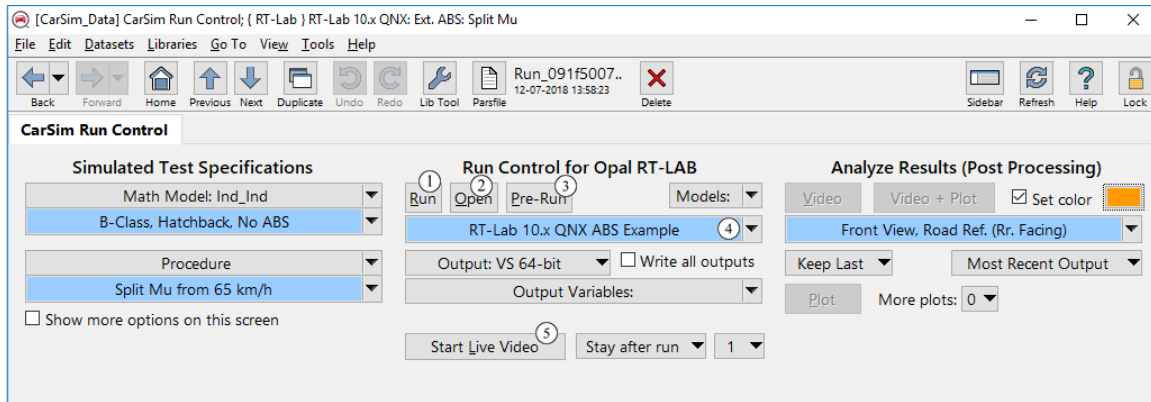
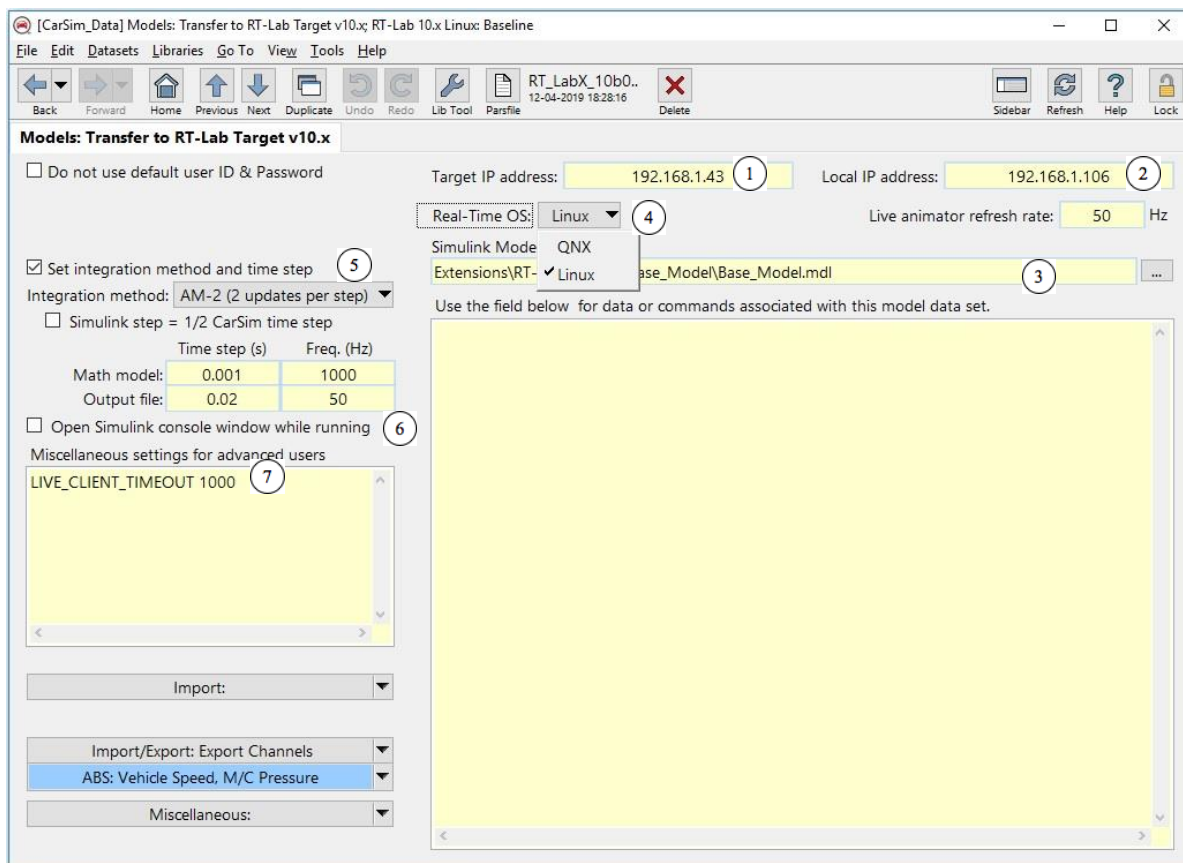
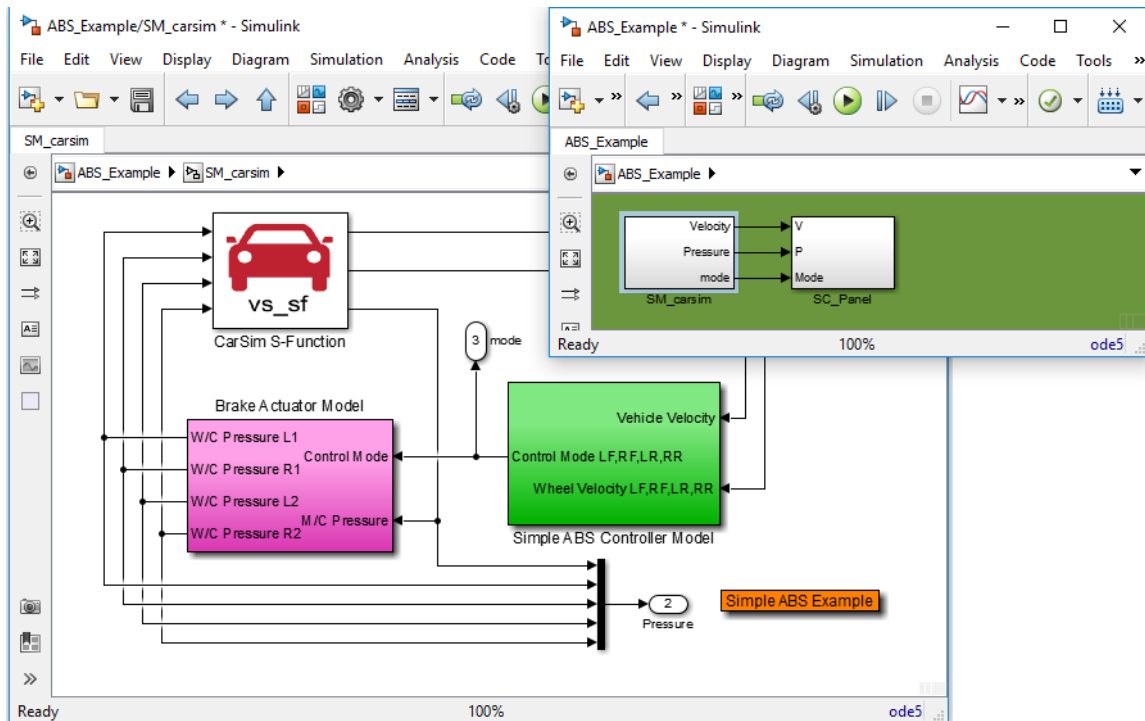
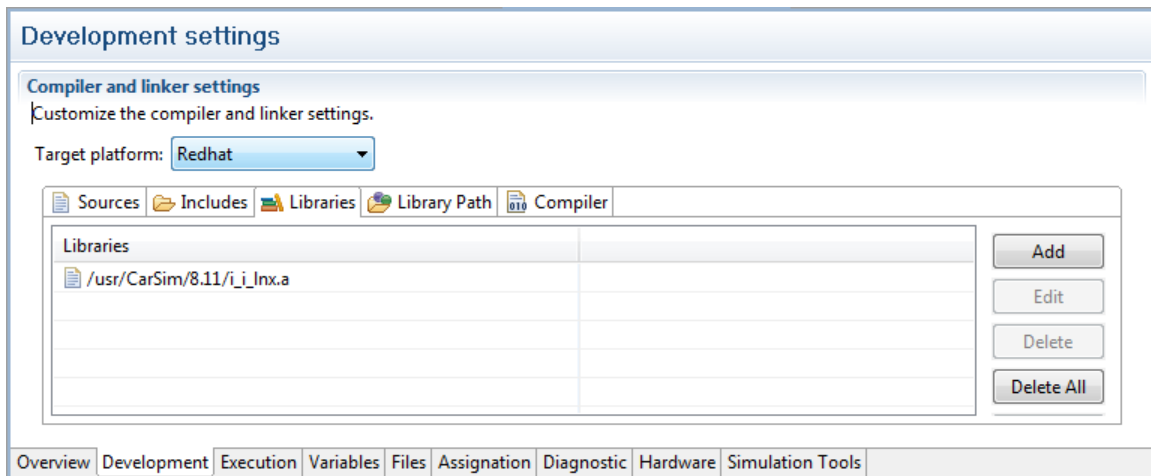

Figure 6. CarSim RT-Lab Run Control with ABS controller
Figure 8. Dataset for RT-Lab example with ABS controller.
Figure 9. Simulink model for ABS example.
Figure 13. RT-Lab Development Settings: Libraries
The CarSim Run Control screen for RT-Lab is shown here (Figure 6). Descriptions of the most used buttons pertaining to running RT-Lab with CarSim are listed below.
- ① **Run:** This will generate the latest Parsfile(s), start the live animation, and start the "Run RT-Lab 10.x Target" program, which will load the model and Parsfile(s) to the target and initialize the model.
- ② **Open:** This will open the Simulink model associated with the current dataset. This will also generate the parsfile(s) and create the .ilm file, which allows the corresponding RT-Lab project to automatically set the correct library and target to match the CarSim Settings.
- ③ **Pre-Run:** This will generate the most current parsfile(s).
- ④ **DataSet Link:** This links to the RT-Lab Models dataset screen (Figure 8).
- ⑤ **Start Live Video:** This will open the live animation currently set in CarSim VS_Visualizer.
2. To run an example of ABS controller, on the CarSim **Run Control** screen, use the **Dataset** menu to go to the example **RT: RT Lab**→ **Ext. ABS: Split Mu** (Figure 6).
3. Click on the Models blue link for the ABS example to view the linked dataset (Figure 8).
Edit and verify your Simulink model by clicking the **Open** button (Figure 6) to open the Simulink model identified in the linked Model dataset (see the Simulink pathname ③ in Figure 8). The model should open in Simulink (Figure 9).
Go to the **Development** tab (Figure 13). Here, make sure the **Target Platform** is in fact the one you set in CarSim (Figure 8). Then click on **Libraries**. The name of the listed library should match what you have set in CarSim. In this example, the vehicle configuration set in CarSim is `i_i` and the target machine is a Redhat Linux platform, so the library's name of `i_i_lnx.a` does match the CarSim setting.
Note If you do not click on **Execute** soon after the model has loaded, the VS Visualizer will disconnect from RT-LAB. Clicking on **Execute** after the Visualizer has disconnected will cause RT-LAB to reset. To prevent the VS Visualizer from disconnecting and RT-LAB from resetting, enter 'live_client_timeout [time in seconds]' in the yellow field on the VehicleSim Model screen as shown in Figure 8 ⑦. The live_client_timeout keyword sets the length of time in seconds that the VS Visualizer will wait before disconnecting. For example, 'live_client_timeout 100' causes the VS Visualizer to wait 100 seconds before disconnecting.
1. Go to CarSim and click the **Run** button on the **Run Control** screen (Figure 6). This will generate the latest Parsfile(s), start the live animation, and start the "Run RT-Lab 10.x Target" program, which will load the model and Parsfile(s) to the target and initialize the model.
1. If your Simulink model has a console subsystem (SC_Panel in the ABS_Example window in Figure 9), you can choose whether or not to open it via the **Open Simulink console window while running** checkbox ⑥ in the CarSim Database window (Figure 8).